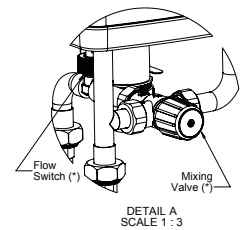

Figure C.2: Domestic and Space Heating Piping Diagram for RPTR155C
3. Install 30psi relief and air vent at top of boiler shown in Figure C.2. Please note there is no top and bottom supply/return connection available on combi 155 boiler, only bottom supply and return piping.
4. Install DHW piping included in miscellaneous parts carton. See pages 165 and 166 for DHW pipe assembly. Correctly pipe domestic side in/out connections using check valve, relief valve, and expansion tank as described in Figure C.2.
- Install remaining domestic piping per Figure C.2 ensuring that check valve, relief valve, and expansion tank are installed on domestic side per local codes.
- Connect near boiler heating system water lines per diagram Figure C.2. Follow general piping instructions in the "System Piping" Section of this manual.
- Connect to incoming domestic cold water and building domestic hot water systems. Refer to Figure C.2.